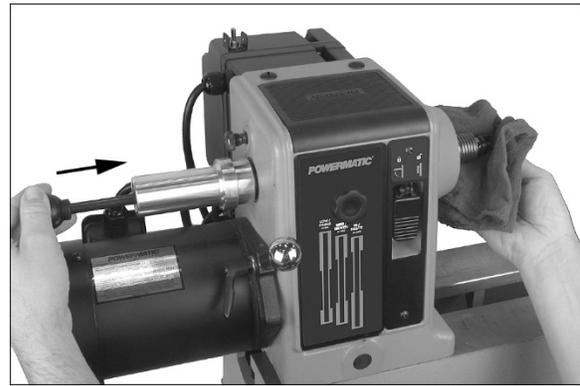

Figure 8-5: removing center from headstock
2. To *remove* the spur center, first remove workpiece from Lathe. Insert knockout rod (Figure 8-5) through hole in handwheel and firmly tap tapered end of spur center.